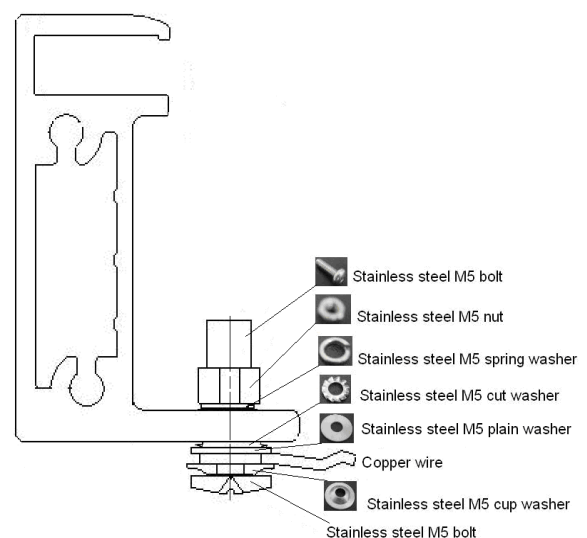

Fig. 17 Grounding the aluminum frame with copper wire
The PV modules are designed with an anodised, corrosion-resistant aluminum alloy frame as a rigid support. To ensure safety and to avoid lightning strikes and electrostatic damage to the PV modules, the PV module frame must be earthed. The earthing device must be in full contact with the interior of the aluminum alloy of the frame, penetrating the surface oxide film. The following is the specific grounding method, as shown in Fig. 17.
- Use the marked 5.5 mm grounding holes to ground the anodized frame. Use one M5 nut, two M5 cut washers, one M5 plain washer, one M5 spring washer, and one M5 bolt and the copper wire. All nuts, bolts, and washers shall be of type M5 and made of stainless steel (Fig. 17).